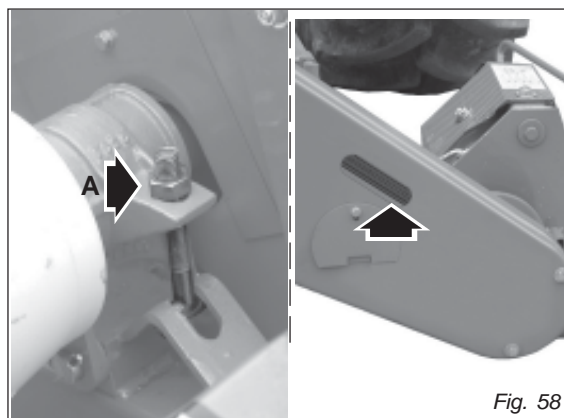

Fig. 58
- Adjust belt tension periodically by adjusting nut (A, Fig. 58). Check tension via the viewing panel on the belt guard. Belt slack must not exceed 1 inch. It is essential to close the inspection hatch with the relative lid after the belts have been examined.